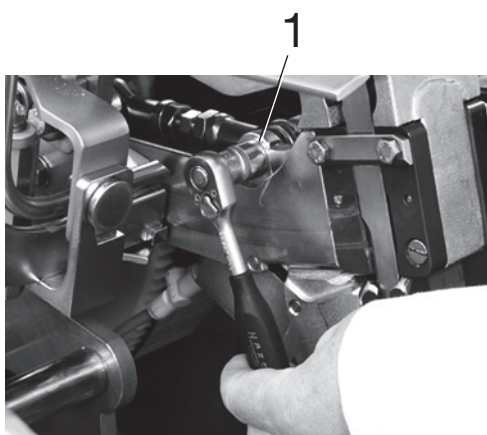

Fig. 7-27 1 Joint rod head fixing screw
- Remove the fixing screw (1, Fig. 7-27) on the joint rod head and push the tool lever forwards.